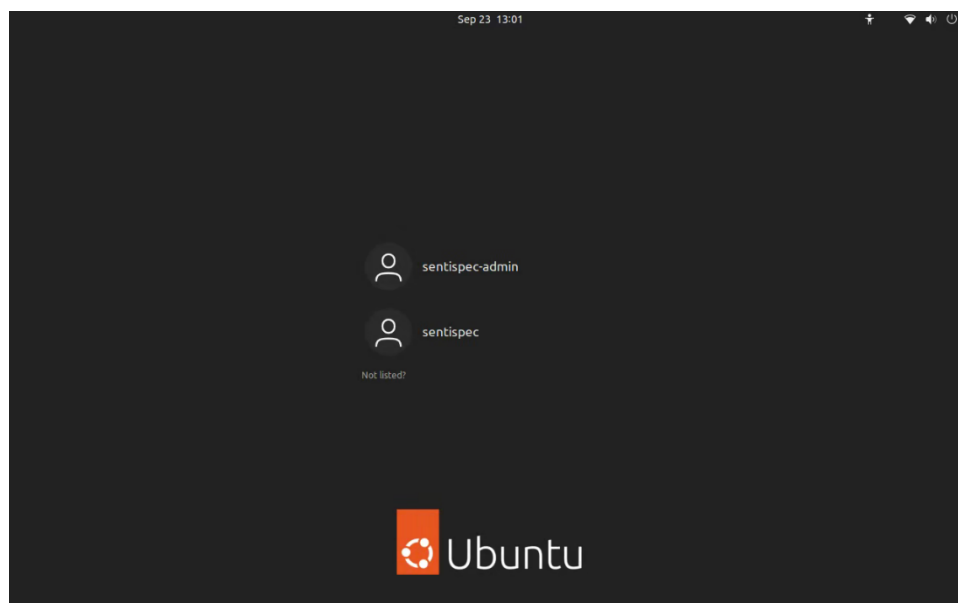

FIGURE 2-9 - LOGIN SCREEN
3. Wait until the display shows the login screen, see Figure 2-9 - Login screen